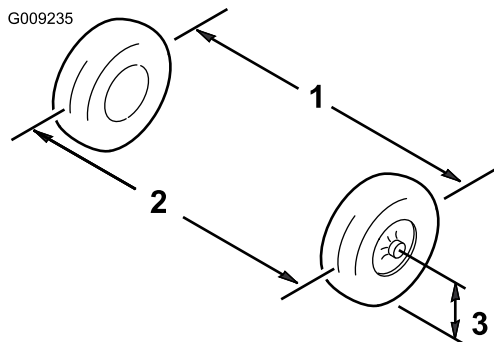

Figure 44
6. Measure the distance between both of the front tires at the axle height at both the front and rear of the front tires (Figure 44).